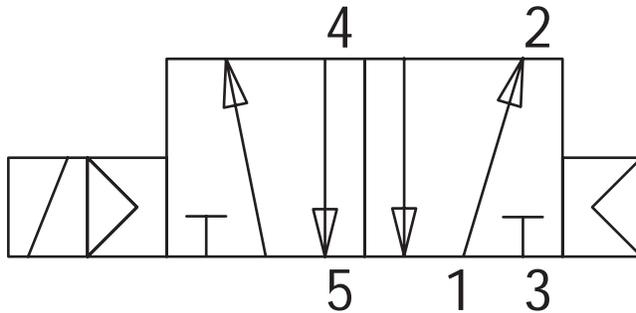
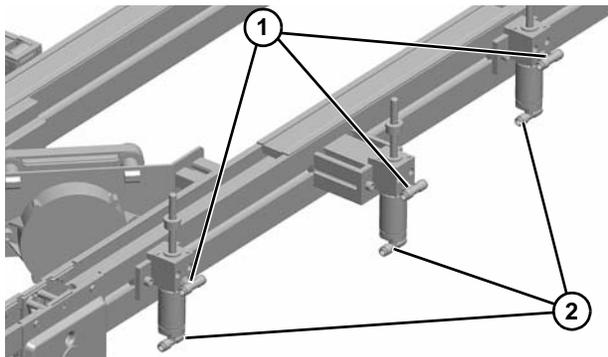
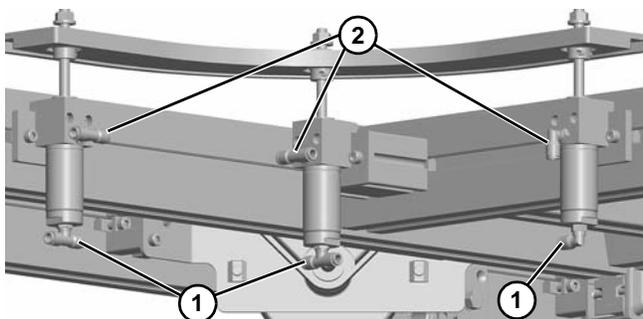

Figure 90
Figure 91
Figure 92
Dorner recommends using a 5 port, 2 way solenoid valve (Figure 90) to operate the pair of pin tracking guides.
1. Plum in series the top ports (Figure 91, item 1) of the straight section cylinders with the bottom ports (Figure 92, item 1) of the corner section cylinders. Connect Port 4 (Figure 90) of the 5 port, 2 way solenoid to this section. Dorner fittings accept 1/4" outside diameter tubing standard.
2. Plum in series the bottom ports (Figure 91, item 2) of the straight section cylinders with the top ports (Figure 92, item 2) of the corner section cylinders. Connect Port 2 (Figure 90) of the 5 port, 2 way solenoid to this section. Dorner fittings accept 1/4" outside diameter tubing standard.